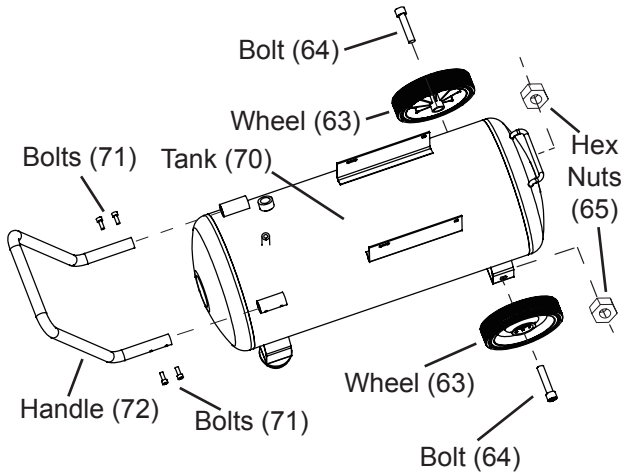

Figure 2
2. The oil level should be at the center of the "full" level on the oil level sight glass, as shown in Figure 2. Add oil as needed to maintain this level. Do not let the oil level go below the center dot (LOW as shown above) and do not overfill the oil so that it is above the center dot (OVERFILL as shown above) on the sight glass.